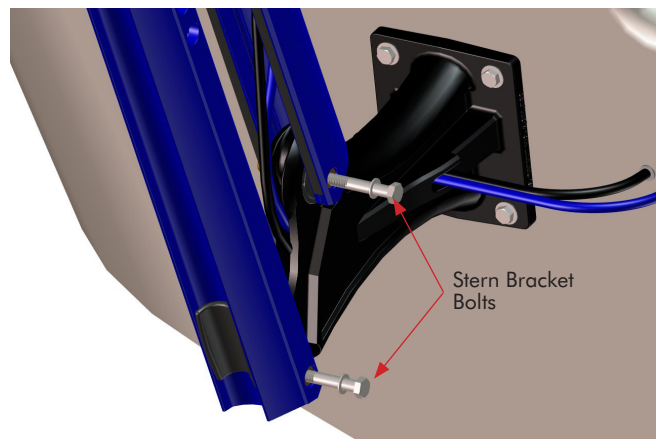

Figure 4
STEP 5 Remove the **Stern Bracket Bolts** with and Mounting Hardware with a 9/16" Socket & Wrench. **FIG 4**